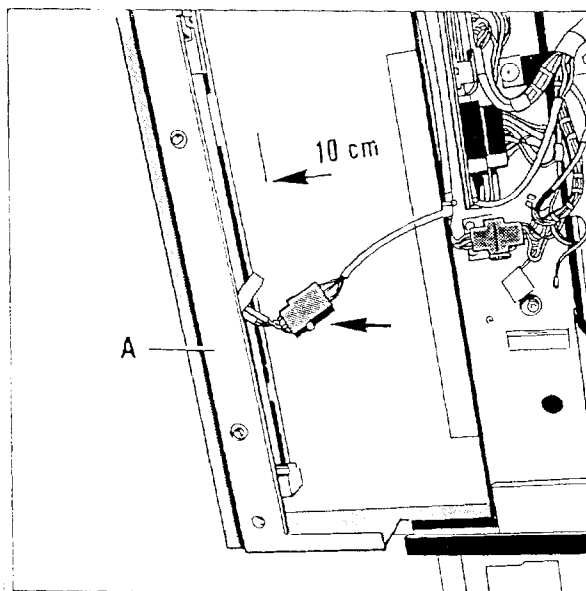

Fig. 3
- Pull the cover of the spotfilm device (A/Fig.3) approx. 10 cm out.
- Release the plug connection N16.X1 (←/Fig.3).
- Pull the cover of the spotfilm device (A/Fig.3) all the way out.